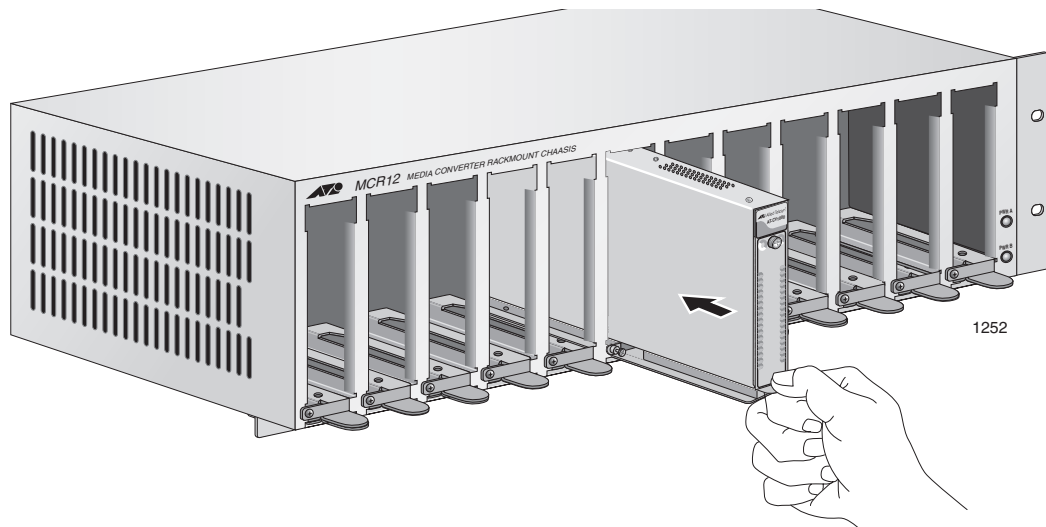

Figure 15. Sliding the AT-CV1000 into the AT-MCR12 Chassis Slot
5. Use the thumb tab on the adapter to slide the AT-CV1000 chassis into the AT-MCR12 chassis, as shown in Figure 15.